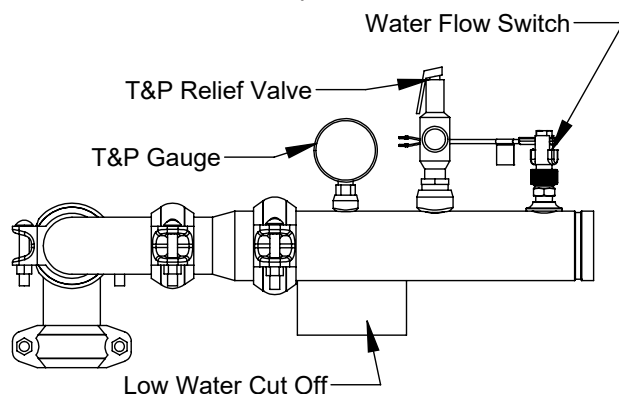

Figure 12: Hot Water Outlet Manifold
2. The hot water supply line shall be connected to the outlet manifold of the appliance shown in Figure 12.
1. A temperature and pressure relief valve is included with every water heater. If the Relief valve is shipped loose, install it to the outlet manifold as shown in Figure 12.